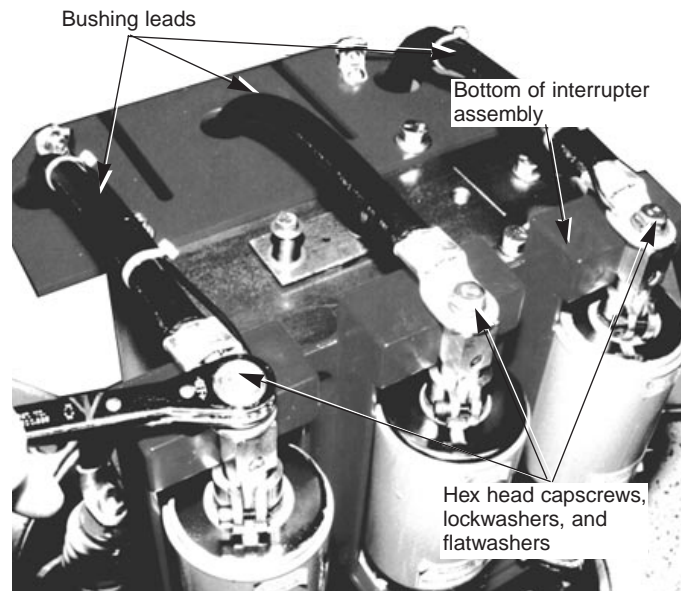

Figure 6.
6. Remove the three hex head capscrews, bronze lockwashers and brass flatwashers connecting the bushing leads to the bottom of the interrupter assembly and save the hardware (refer to Figure 6).